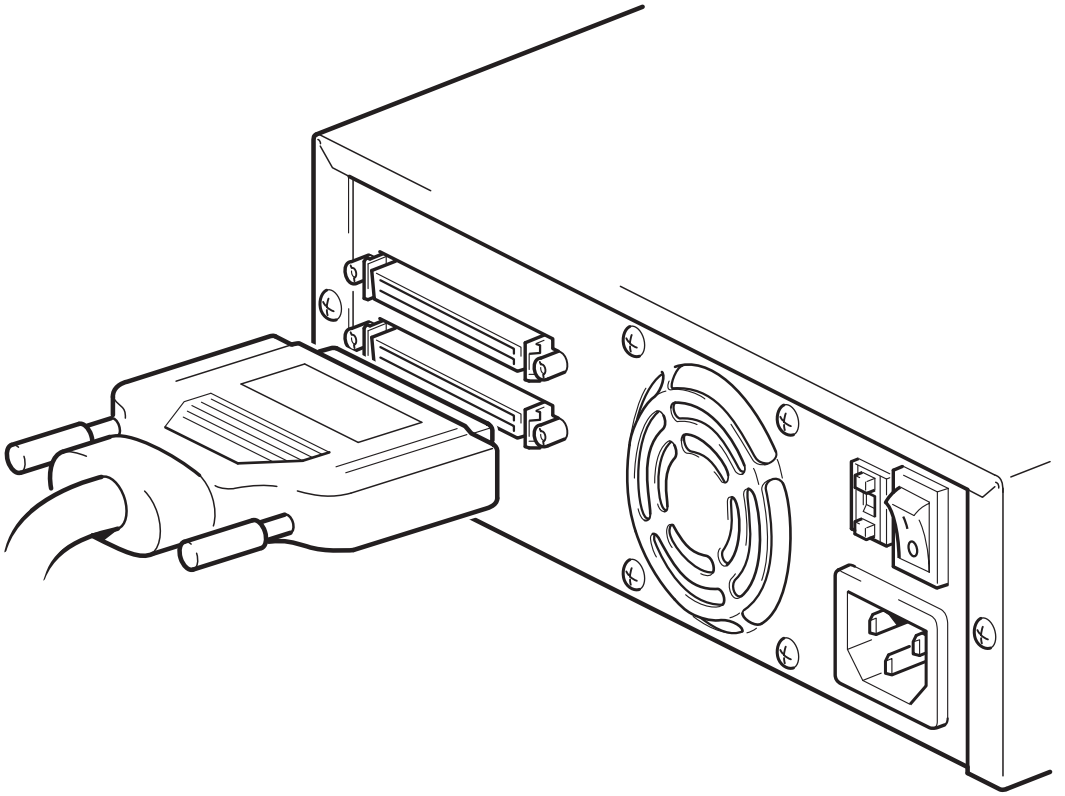

Figure 3: connecting the SCSI cable
- 3 Attach the other end of the SCSI cable to one of the connectors on the rear panel of the tape drive and secure it by tightening the screws, as shown on figure 3.